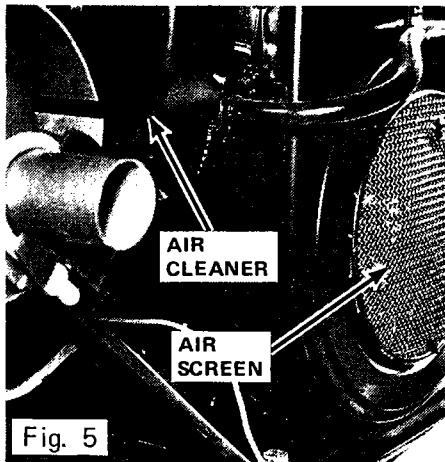

Fig. 5
4. Check to see that air cleaner element is free of debris. Check and clean regularly. Refer to Figure 5 and maintenance page 11.
5. Clean flywheel screen. Check and clean regularly. Refer to Figure 5.